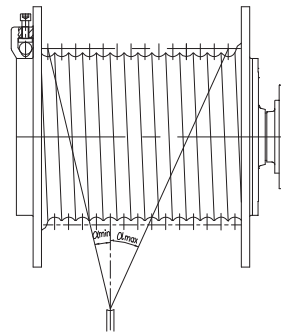

图4 Figure 4
4.3 为了保证钢丝绳正常缠绕,要求绳偏折角 α 维持在允许范围之内(图4),应注意以下几点:
4.3 To achieve acceptable rope winding, the deflection angle α must be kept in the allowable value (figure 4) At- tent the following points: